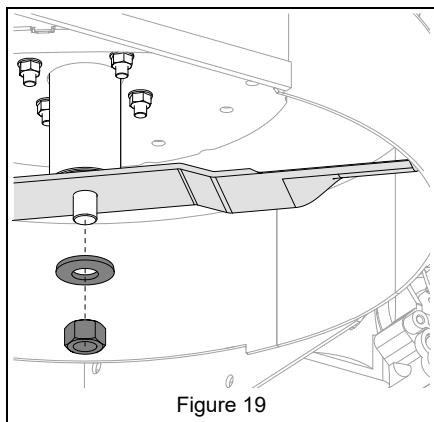

Figure 19
- See Figure 19.
See Figure 19.